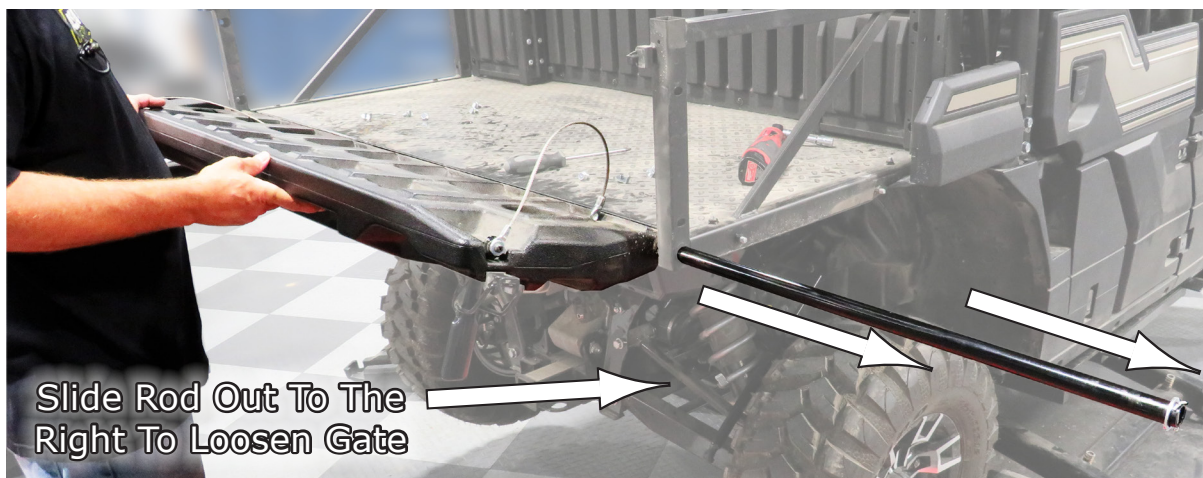

Fig.5a
5. Next you need to pull the gate rod out from the passenger's side out most of the way but not all of the way so the right side of the gate can remain hung on the rod. Then angle the gate out and pull the gate off the rod as shown in **Fig.5a-b**.